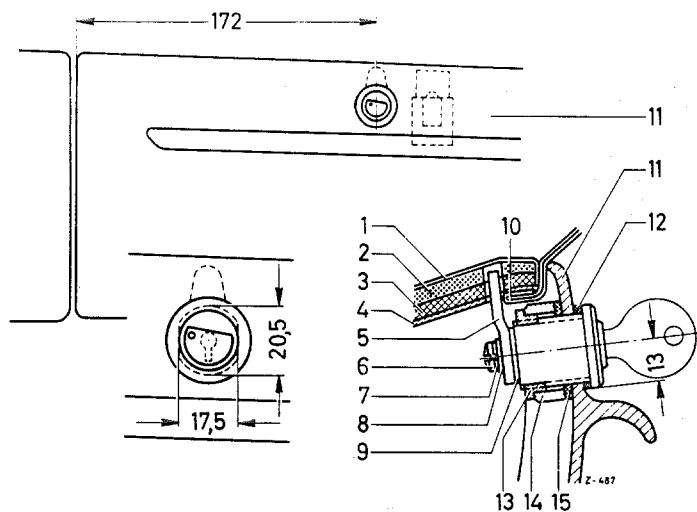

Fig. 68 — 4/2
5. Shorten the tongue (5) by 5 mm (see Fig. 68 — 4/2).
6. File the 18 mm \varnothing bore in the glove compartment lid to the specified dimensions (see Fig. 68 — 4/2) and fit the lock.